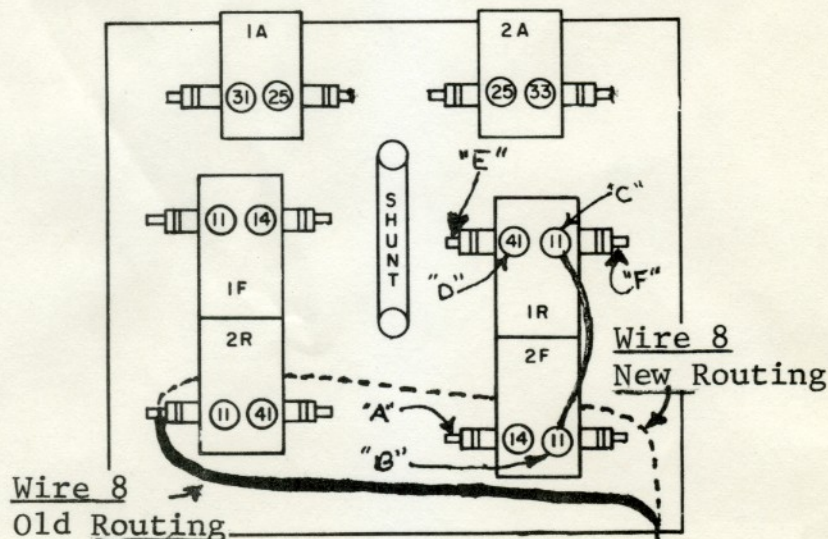

Figure 1. Lower Control Panel
1. Identify heavy wire #8 connected to the left side of 2R contactor (See Figure 1).
1. Identify wire #6-01-6 (14 gauge) connected to the left side of 2F contactor (See "A" of Figure 1).
3. Add this wire to the right coil stud of 2F contactor which presently has a wire coded #11 connected to it. (See point "B" in Figure 1.)
4. Check to see that jumper wire #11 is connected between points "B" and "C" as shown in Figure 1. If it is found to terminate at point "D" make the correction as required.
4. Install wire number 60 (supplied) on pad 7 of card No. 3 and terminate its other end on the left side of 1R contactor, point E in Figure 1.
5. Install wire number 24 (supplied) on pad 1 of card No. 3 and terminate its other end on the right side of 1R contactor, point F in Figure 1.